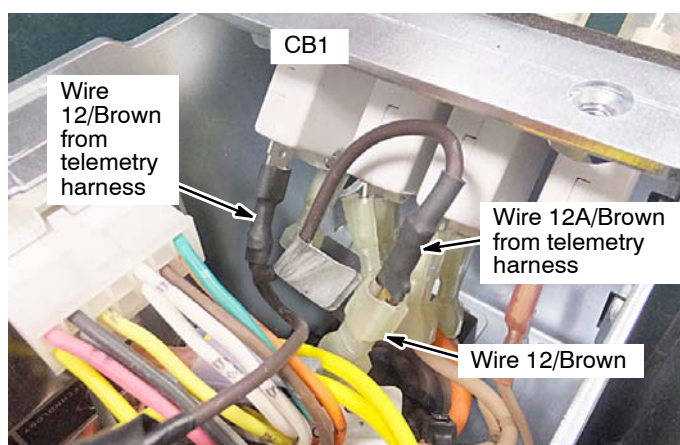

FIG. 31
17. Route telemetry harness wires, 12/Brown and 12A/Brown, to circuit breaker box and connect wires as shown (FIG. 31). Replace the circuit breaker box cover.